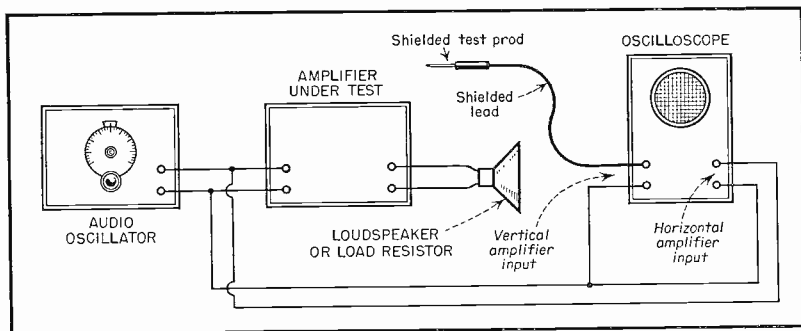

Fig. 4. Showing how 'scope horizontal amplifier input is connected to audio oscillator.
(1) Set up the oscilloscope, amplifier, and audio oscillator as described in the previous test, except do not use the internal sweep of the oscilloscope. Instead, connect the horizontal amplifier input of the 'scope to the audio oscillator (See Figure 4).